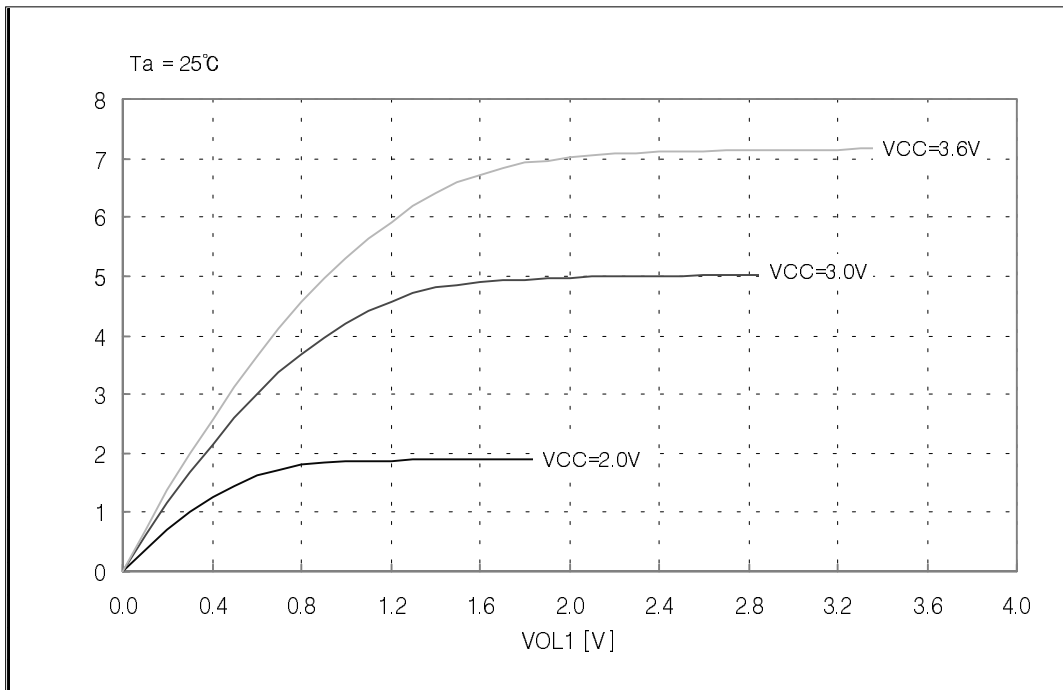

Fig 2-6. I_{OL1} vs V_{OL1} Graph (REMOUT Port)
*2 Refer to < Fig.2-6 I_{OL1} vs. V_{OL1} Graph >